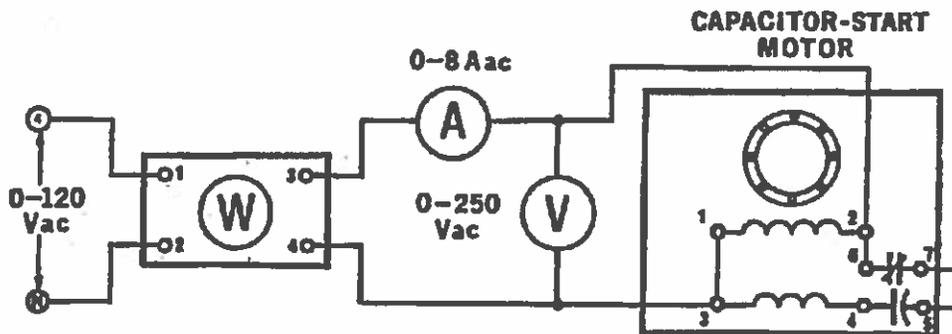

Figure 34-4.
6. Using your Single-Phase Wattmeter, Electrodynamicometer, AC Ammeter and AC Voltmeter, connect the circuit shown in Figure 34-4.